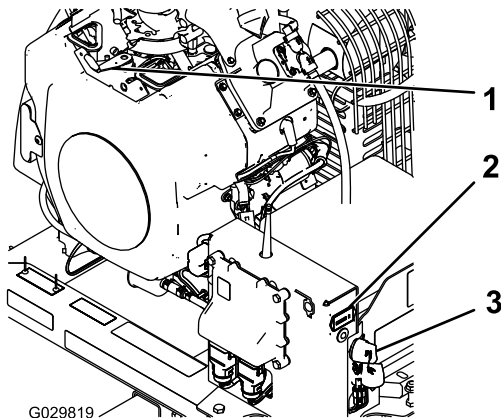

Figure 14
2. Rotate the engine ignition key to the START position (Figure 14).
3. If leaving the machine, rotate the key to the OFF position and remove it from the ignition switch (Figure 14).